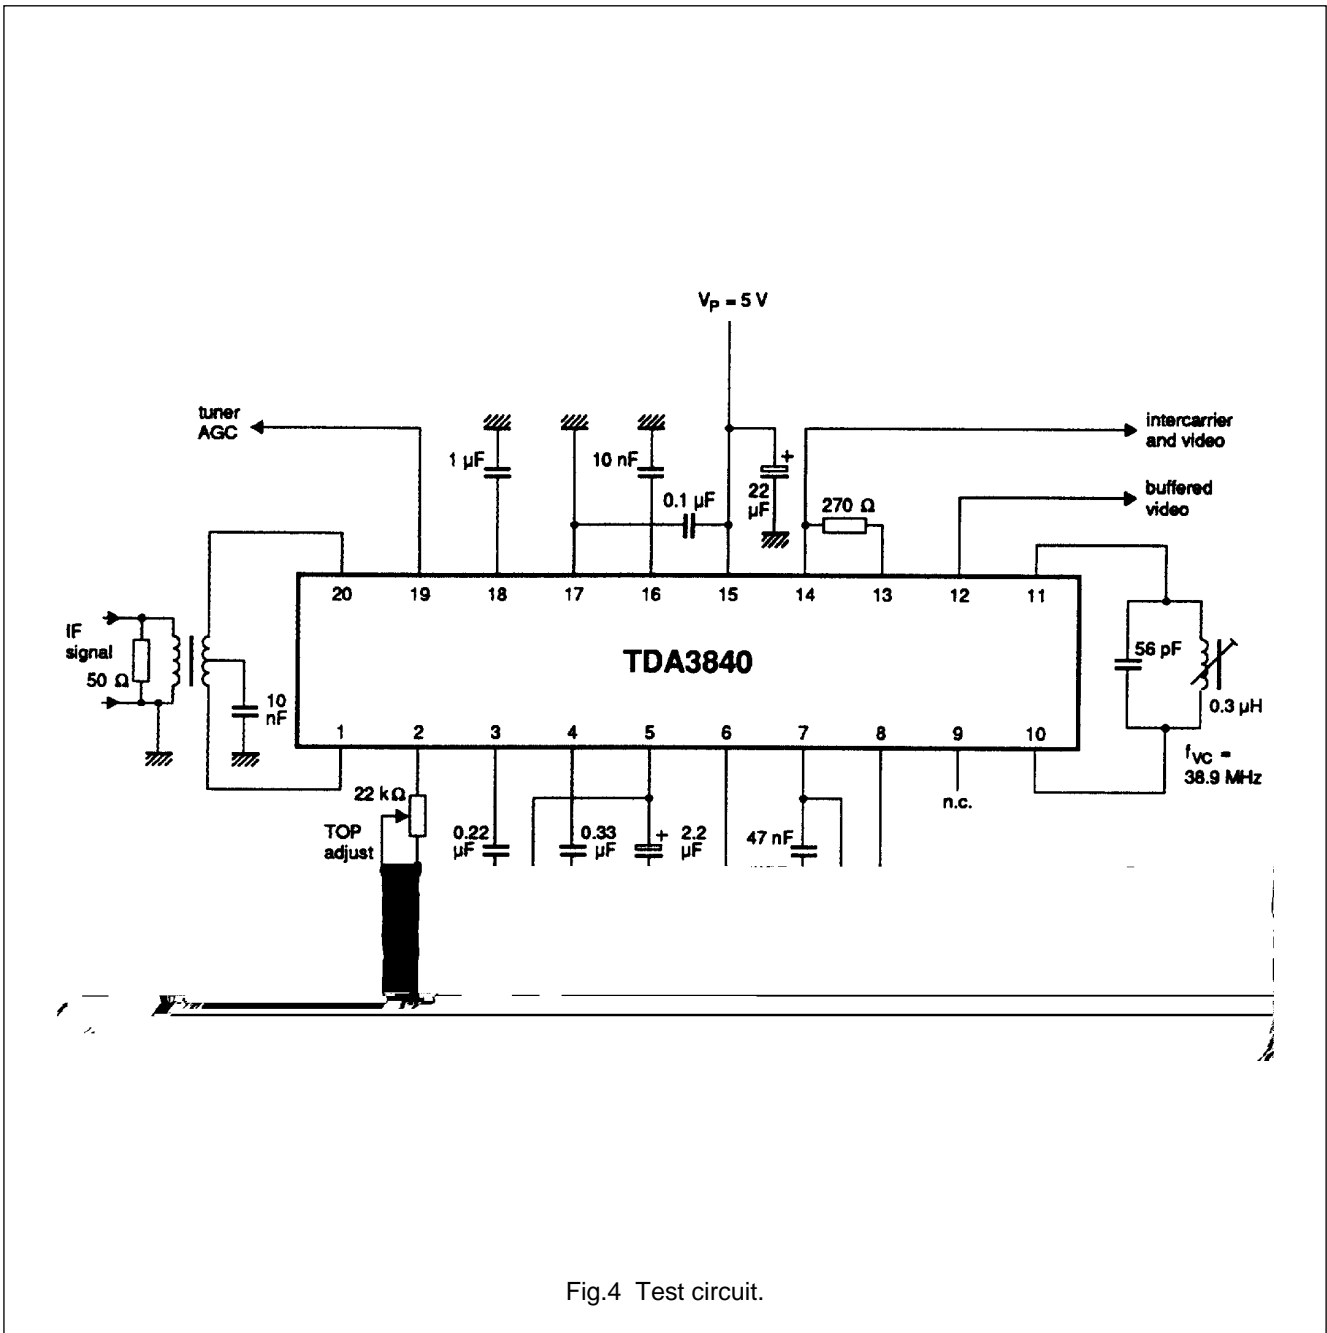

Fig.4 Test circuit.
V_P = 5 V and T_{amb} = 25 °C; f_{VC} = 38.9 MHz; all voltages are measured to GND (pin 17); measured in test circuit of Fig.4; unless otherwise specified.
- IF input signals are RMS values measured at TOP sync (standard B/G) and with a vision carrier of 38.9 MHz (see Fig.4). The IF input signal is fed from 50 Ω via a 1:1 transformer, DSB, to pins 1 and 20. With a 10 mV_{RMS} IF input signal, the residual vision carrier is: = 10 % for white (standard B/G).
- In the test circuit of Fig.4, measured and weighted according to CCIR Recommendation 567: